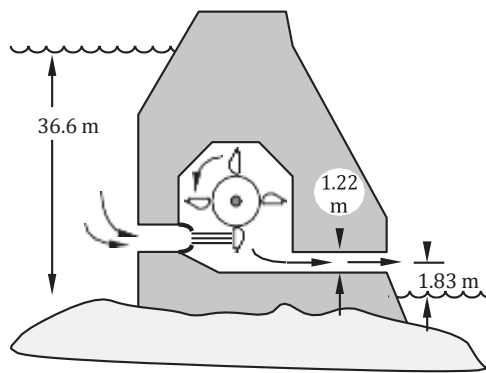

FIGURE P2.50.
50. One of the examples in this chapter involved calculations made to determine the power output of a turbine in a dam (see Figure P2.50). When the flow through the turbine was $3.15 \text{ m}^3/\text{s}$, and the upstream height is 36.6 m , the power was found to be 1.06 kW . The relationship between the flow through the turbine and the upstream height is linear. Calculate the work done by (or power received from) the water as it flows through the dam for upstream heights that range from 18.3 to 36.6 m .